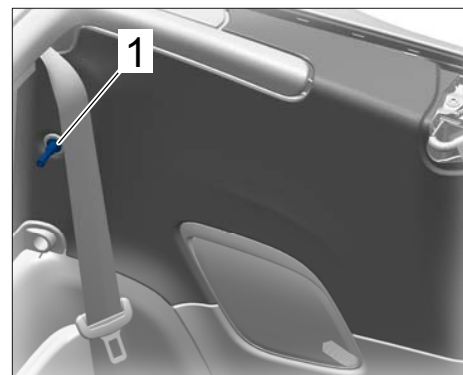

Figure 6
4.4 Unscrew locking pins ⇒ *Figure 6 -1-*.